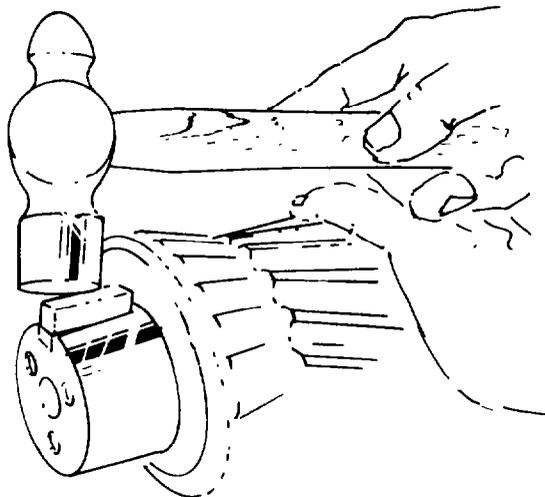

Fig. 315 — Installing Key
- d. Remove the pinion shaft from the press and install the key into the keyway, using a hammer (see fig. 315).